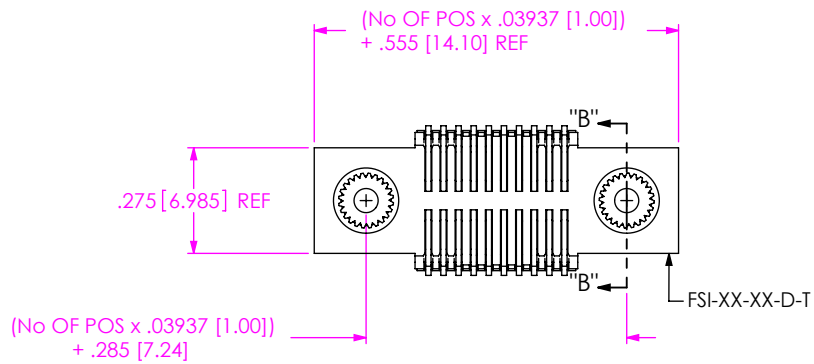

FIG 3
- E: THREADED INSERT (ENGLISH) (USE INS-19-2-56-157, SEE FIG 3, SHT 2)
- M: THREADED INSERT (METRIC) (USE INS-19-M2-157-N, SEE FIG 3, SHT 2)